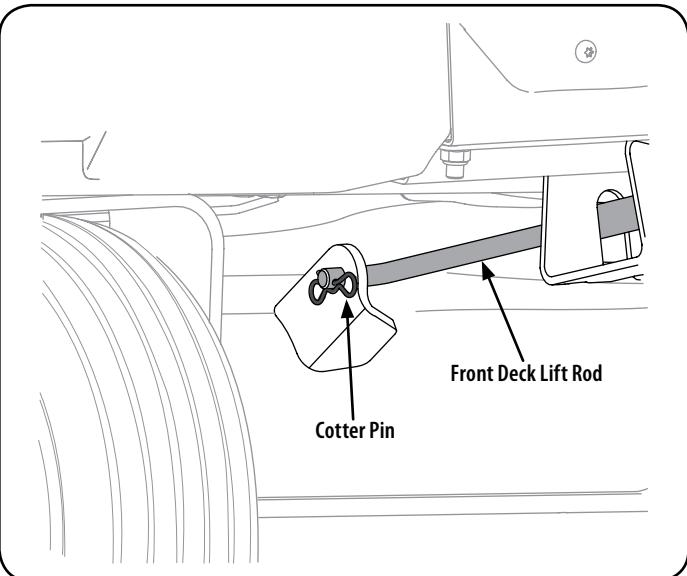

Figure 36
- Pull the cotter pin out of the front deck lift rod securing it to the deck. See Figure 36. Slide the deck lift rod out of the front hanger bracket.
- Reinstall the front deck lift rod and secure in place with the cotter pin. Refer to Figure 36.